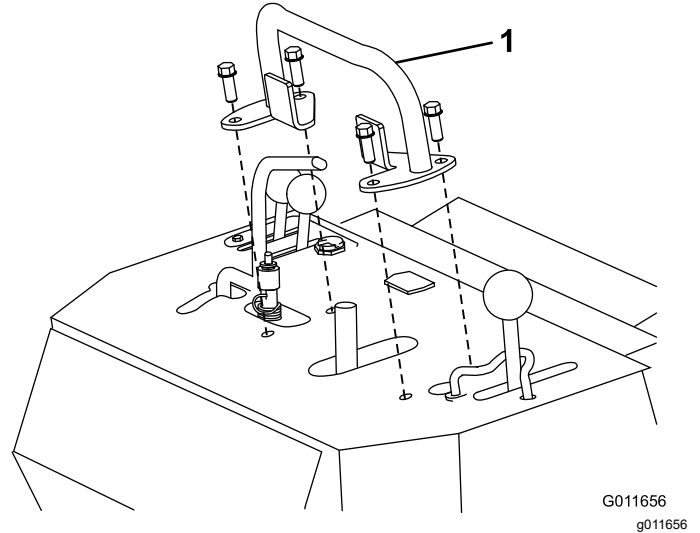

Figure 4
3. Remove the reference bar (Figure 4)